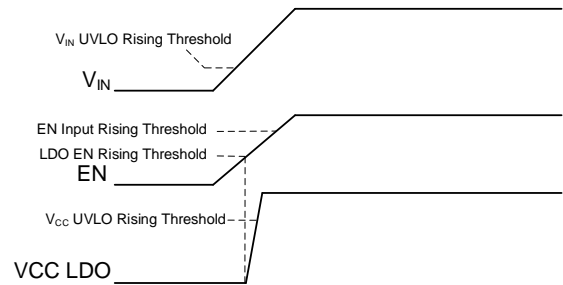
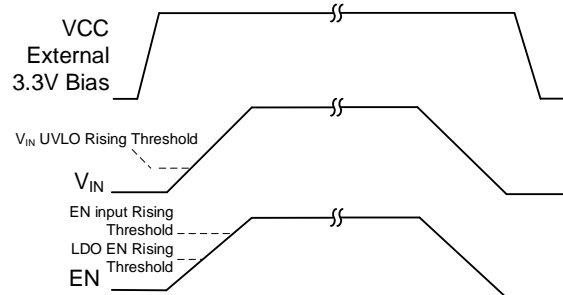

Figure 6: Power-Up Sequence with Internal LDO and Two EN Thresholds
Figure 7: Power-Up Sequence with External VCC Bias
The MPQ8633B supports using an external 3.3V VCC bias (see Figure 7). When the external VCC bias is used, it is recommended to apply the external VCC bias before the VIN UVLO rising threshold or LDO EN rising threshold is reached. If the external VCC bias is applied after the VIN UVLO rising threshold and LDO EN rising threshold are reached, the LDO must output and provide power to the load, which is supposed to be supplied by the external VCC.
| | | <ul style="list-style-type: none"> Added the Enable (EN) Thresholds section and the Power Sequence with External VCC Bias section Added Figure 6 and Figure 7 | 17 |
| | | Updated the PCB layout Guidelines section: <ul style="list-style-type: none"> Deleted step 10: “Place the OSENSE capacitor in between the output sense lines and close to the device.” Added step 10. “Place C_{OL} between the output sense lines and close to the device. It is recommended to use a 1nF to 100nF capacitor.” Added step 11: “Do not place vias on the V_{OSENSE+/-} trace.” Added step 12: “Use a 10Ω to 49.9Ω for resistor for R_{PG} and a 1nF capacitor for C_{PG}.” Added step 13: “It is recommended for the feed-forward resistor (R_{FF}) to be 1/10 of the top feedback resistor (R_{FB1}).” Updated Figure 6 to Figure 8 and made additional changes | 20 |